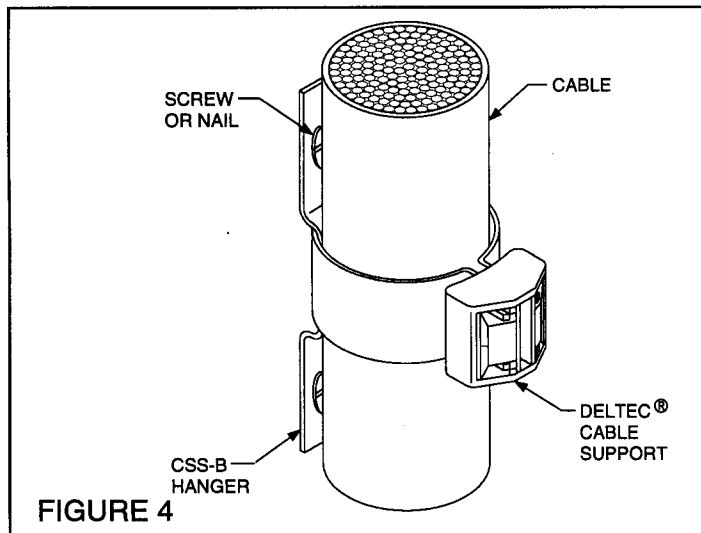

FIGURE 4
- 5.2 Insert strap, snug up and cut off. (see Figure 4)